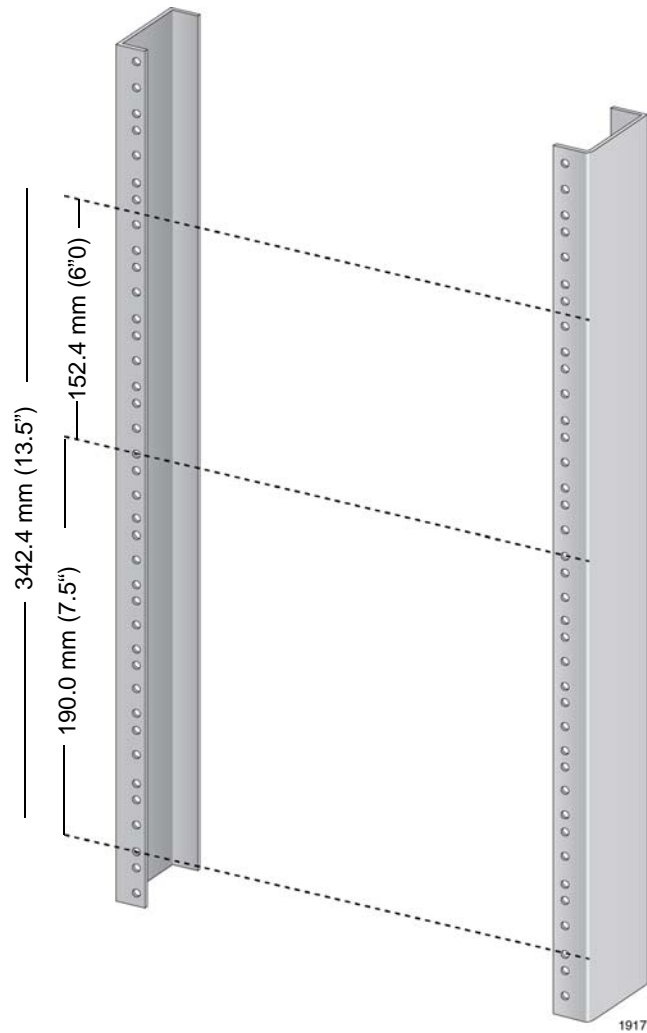

Figure 32. Reserving Vertical Rack Space
1. Reserve 190.0 mm (7.5") of vertical rack space for the installation of the AT-SBx8106 Chassis, as shown in Figure 32 on page 96.